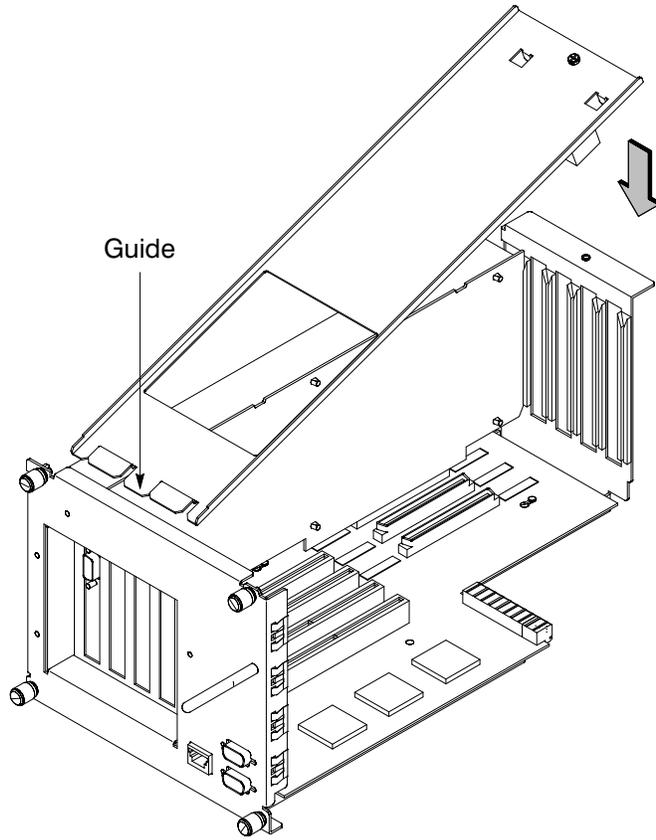

Figure B-38. Replacing EISA Assembly Cover
7. Insert cover in guide and secure with screw. Refer to Figure B-38.